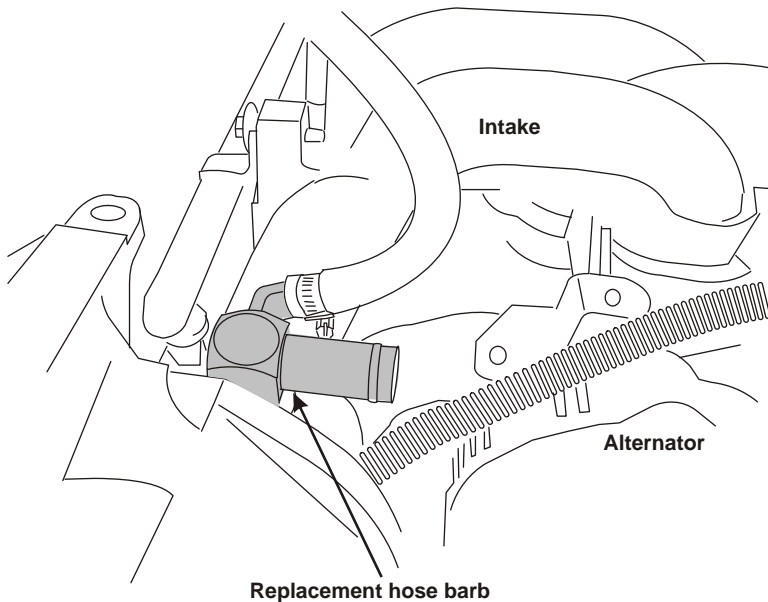

Figure 1.4
- Identify the model year and follow the appropriate instructions. A typical installation is shown in Figure 1.4.